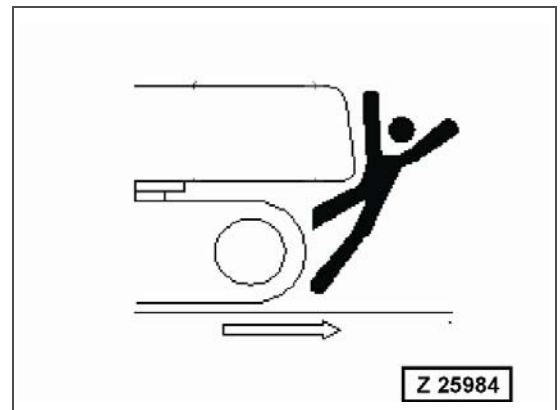

Fig. 2-22
- Before travelling, check again that there is no one in the surrounding area, and that there are no obstacles (Fig. 2-22).